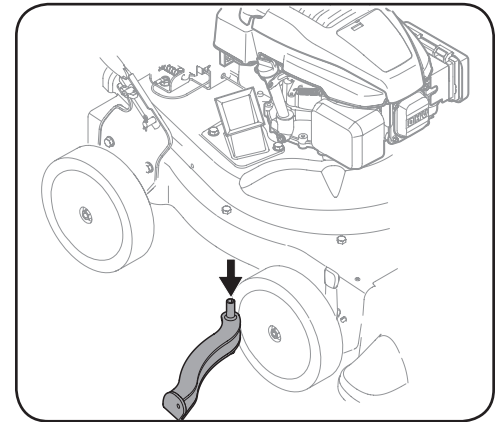

Figure 7-4
7. Remove and clean the screen by scraping or washing with water. See Figure 7-4.